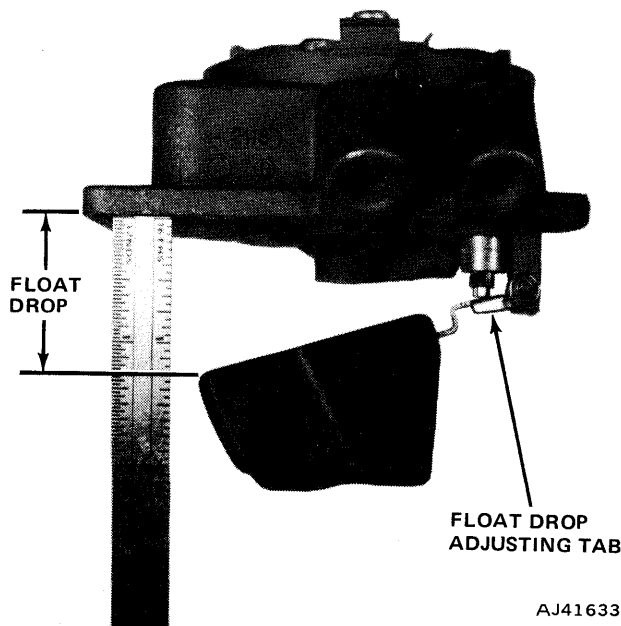

Fig. 4-28 Float Drop Adjustment
(1) Remove carburetor air horn and gasket from carburetor.
(2) Hold air horn upright and float hang free. Measure the maximum clearance from top of float to bottom of air horn with gauge. Refer to Carburetor Service Specifications for proper clearance. Hold air horn at eye level when gauging dimension (fig. 4-28).
(3) Bend tab at end of float arm to obtain specified setting.
(4) Install carburetor air horn and new gasket on carburetor.